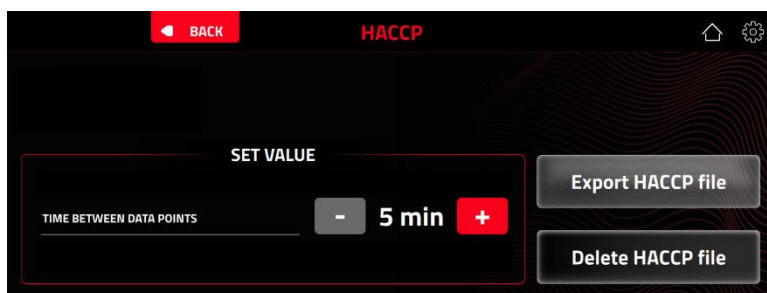

Fig. 6.2
- HACCP: Hazard Analysis Critical Control Points. This is a series of time and temperature parameters to reduce the risk of foodborne illness, originating from the FDA. The HACCP screen enables the cabinet to record relevant time and temperature data at selectable time intervals over a period of time. The data can then be Exported for storage and/or deleted. See Fig. 6.2.